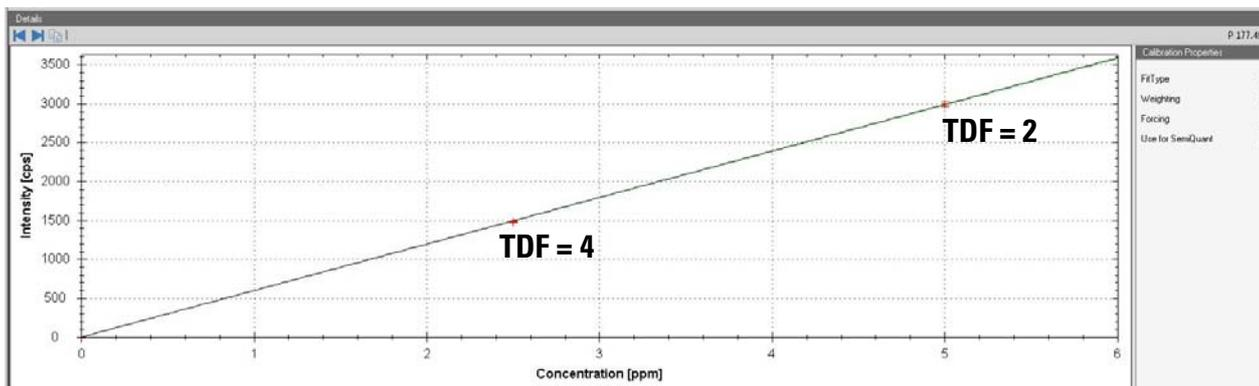

Figure 14-28. Calibration curve based on STD with 2 points of Total Dilution Factors (TDF)
- The finished LabBook (see Figure 14-27) shows the calibration curve, see Figure 14-28.
9. Double-click the STD entry to see the details of the calibration curve, see Figure 14-28.